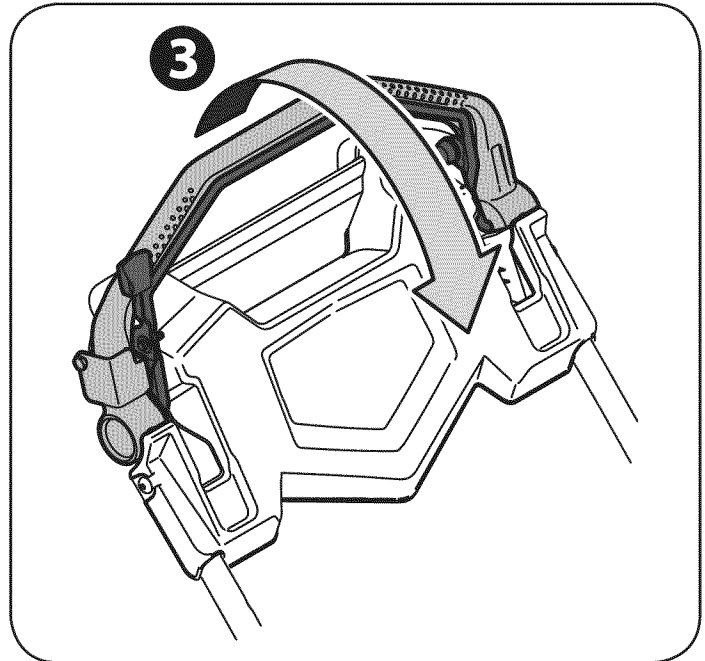

Figure 11
3. While continuing to hold the blade and drive controls together, push the drive control forward to propel mower. See Figure 11. The farther the control is pushed forward, the faster the mower will propel.